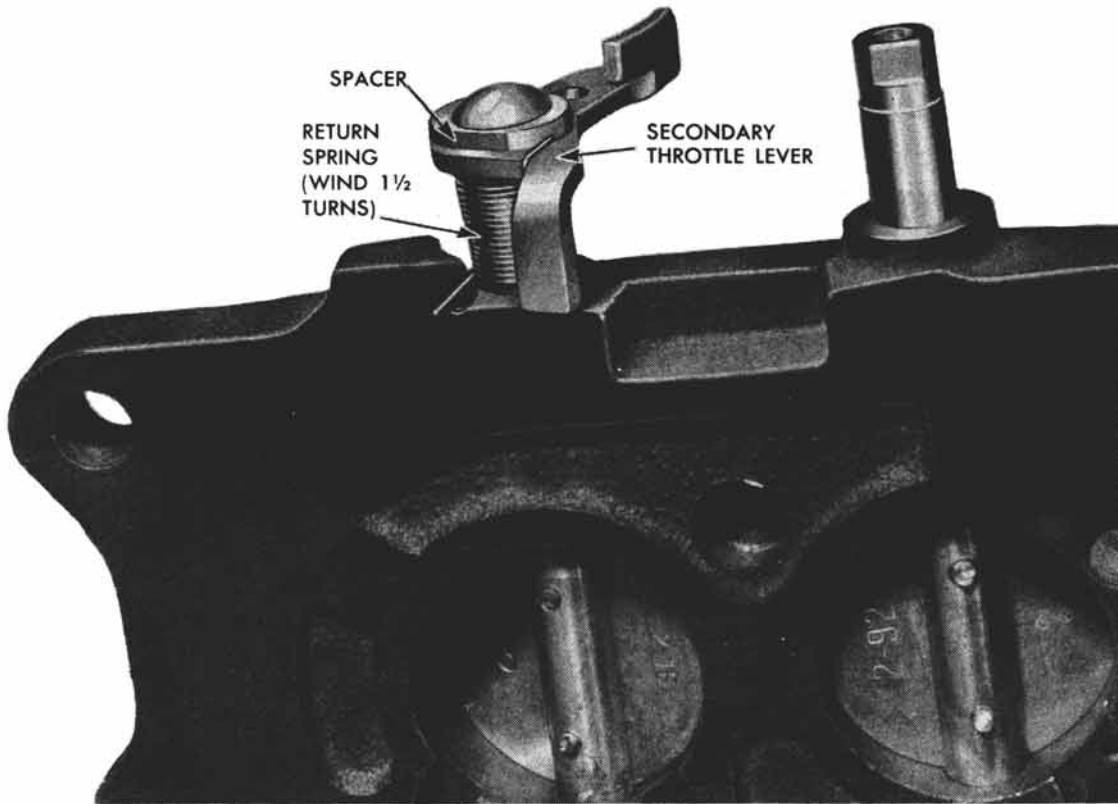

Fig. 29-C Secondary Throttle Lever and Spring Installation
5. Install secondary throttle return spring, lever, and spacer (Fig. 29-C) on secondary throttle shaft and secure with screw. Place straight end of spring in boss groove on flange. Using a piece of hooked wire, wind spring 1 1/2 turns clockwise and hook spring onto secondary throttle lever as illustrated.
6. Install thrust washer inner primary throttle shaft arm, primary throttle shaft dog, and outer primary throttle shaft lever on primary throttle shaft. Adjust parts relationship as illustrated in Fig. 29-C, then install spacer and screw.